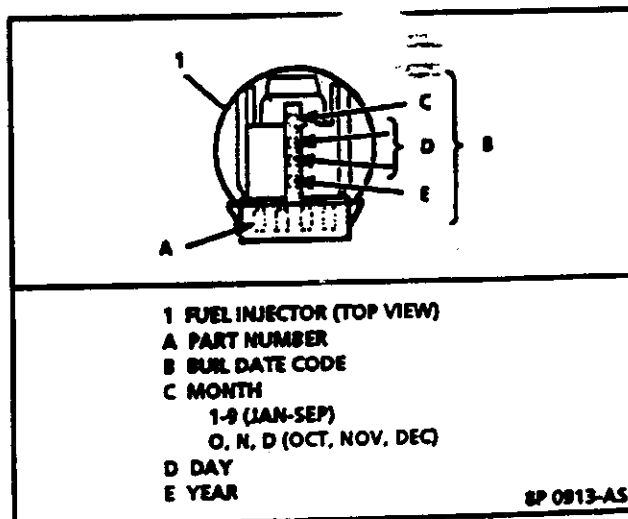

Figure 3.2-17 Fuel Injector Part Number Location
- Be sure to replace the injector with an identical part. Injectors from other models can fit in the Model 700 throttle body injection, but are calibrated for different flow rates. (See Figure 3.2-17 for part number location.)